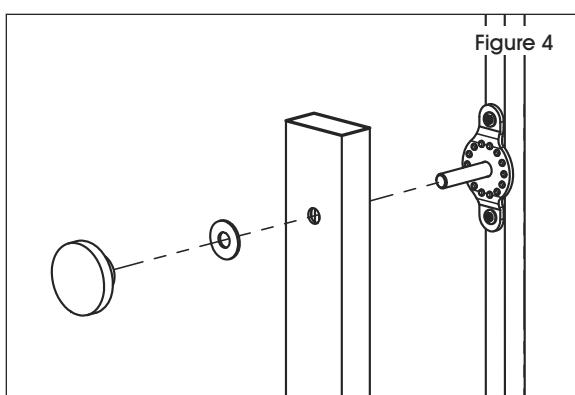

Figure 4
6. Place the panel between the legs, and insert the pivot stems through the top hole in each leg. Place a washer and knob on each stem. (See Figure 4)